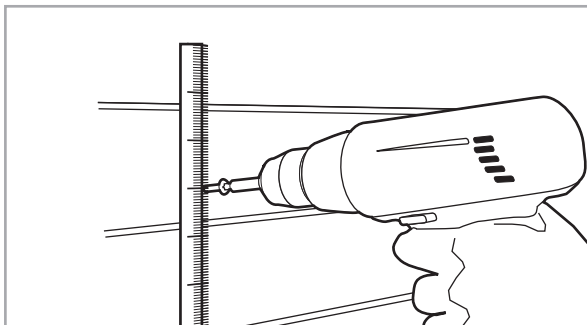

Figure 3.3
- 2) Attach the heater to the wall with screws. Observe the safety distances between the heater and any inflammable material in accordance with Table 4.4 (see Figure 3.3) when installing the heater.